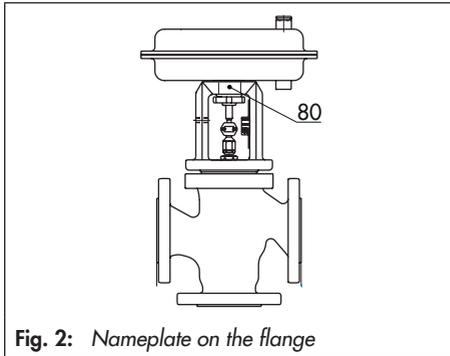

Fig. 2: Nameplate on the flange
The valve nameplate (80) is affixed to the flange (see Fig. 2).